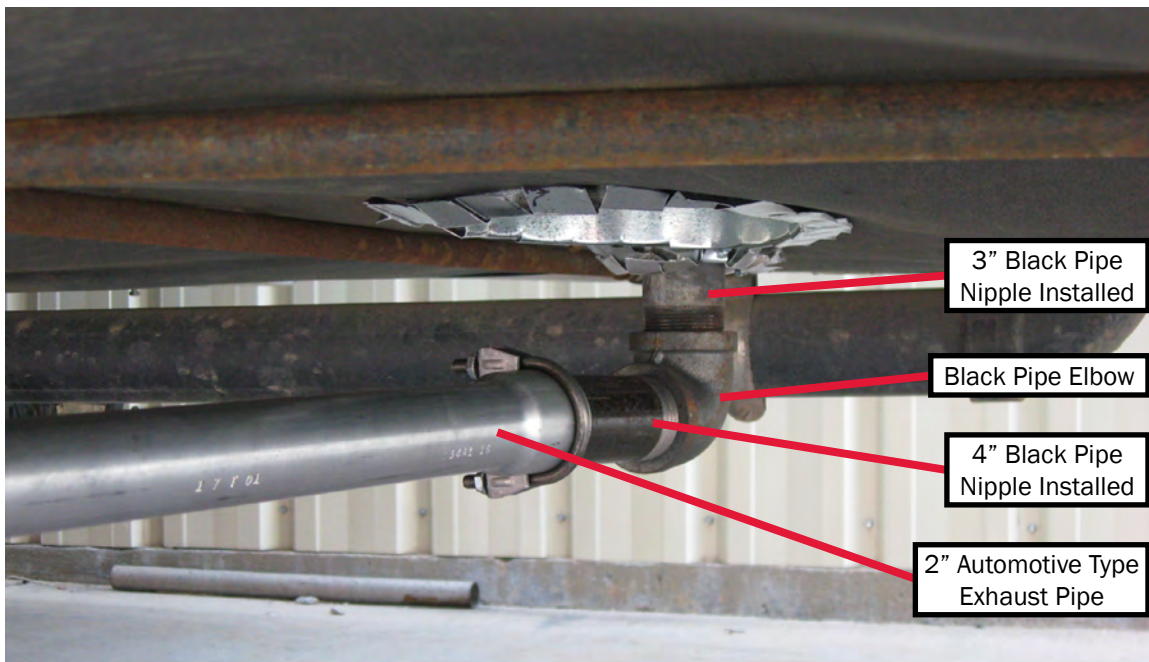

Figure 20
- Use standard 2" automotive-type exhaust piping and avoid bends, if possible. A minimum 1.75" ID automotive-type exhaust pipe may be used. See Figure 16 & Figure 20.